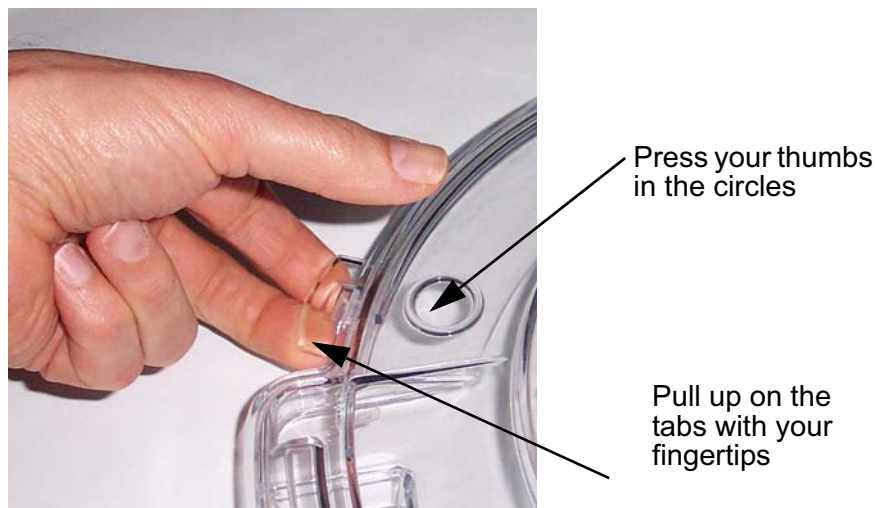

Figure 3.1: Opening the Clean Box
1. Place your thumbs in the raised circles on the top of the case (see Figure 3.1).
2. Using your fingertips under the tabs, lift up on the lid of the clean box while you press down with your thumbs, as shown in Figure 3.1.
2. Place both thumbs on the raised circles on the top of the case (see Figure 3.1) and press down until the case snaps shut.